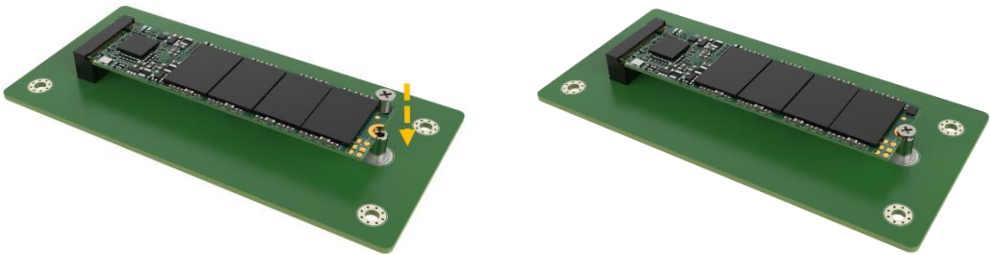

Figure 3-11: Secure the Screw
Step 4: Secure the M.2 module with the previously removed retention screw (**Figure 3-11**).